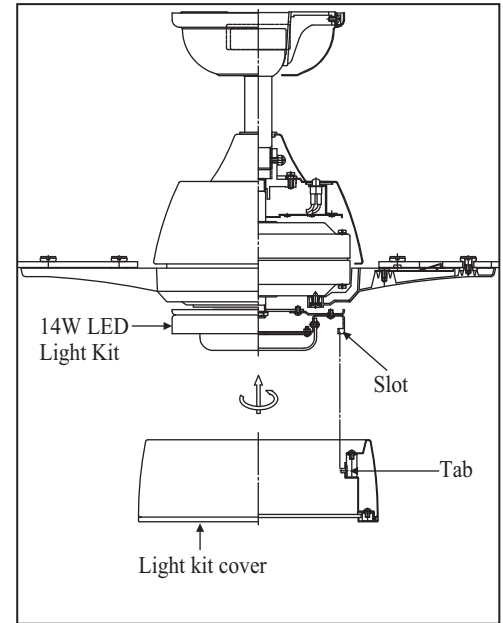

Figure 20
5. Raise the light kit cover up against the 14W LED light kit, the three tabs inside the light kit cover should be placed against the three slots on light kit, twist the light kit cover clockwise until snug. Do not overtighten. (Fig. 20)